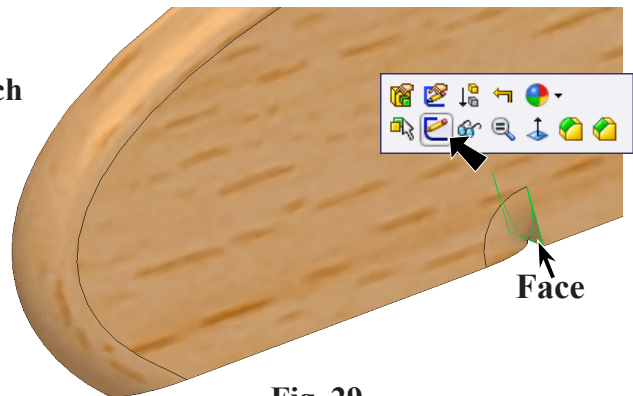

Fig. 29
Step 1. Click the **flat face remaining on the Fuselage after the Cut Revolve** and click **Sketch**  on the Content menu, **Fig. 29**.